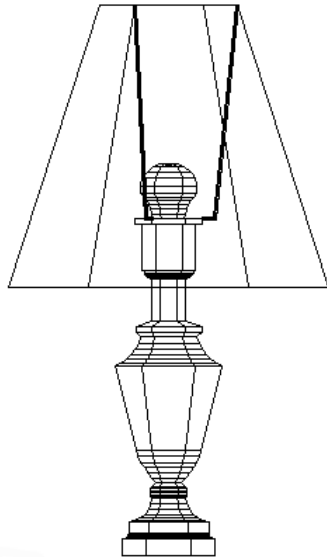

Figure 24-28: The completed lamp.
2. Save the file as `ab24-08.dwg` in your AutoCAD Bible folder. You see the same lamp used in the previous exercise, but it has now been completed, as shown in Figure 24-28.